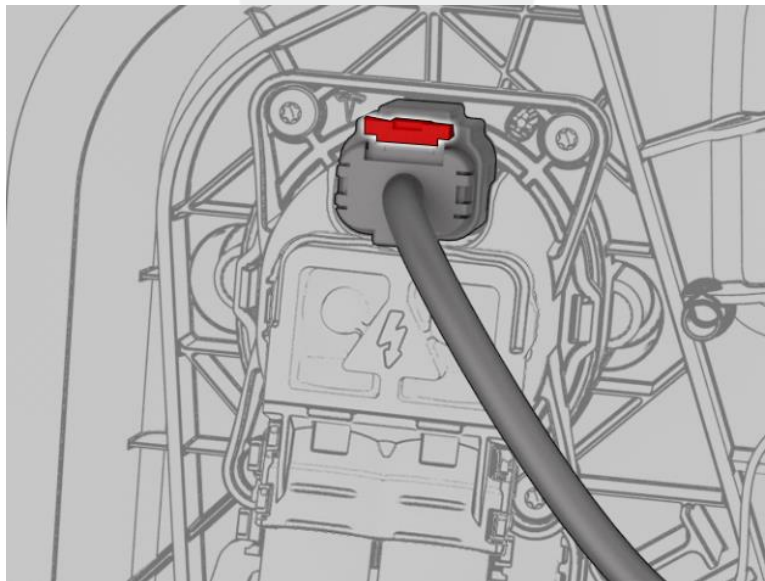

Figure 6
13. If not already disconnected, release the locking tab from the charge port low voltage connector, and then disconnect the connector from the charge port (Figure 6).